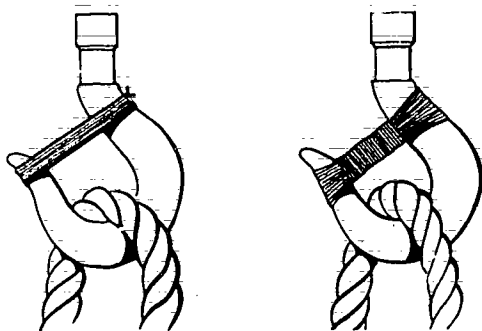

Figure 7-80. Mousing Hooks
2. **Mousing Hooks** No one hook shall be used in any situation where accidental dislodgement of the load could cause a risk of injury to workers. In these circumstances a safety hook or a shackle must be used, or if permitted by government regulations, mousing as shown in Figure 7-80 could be applied.